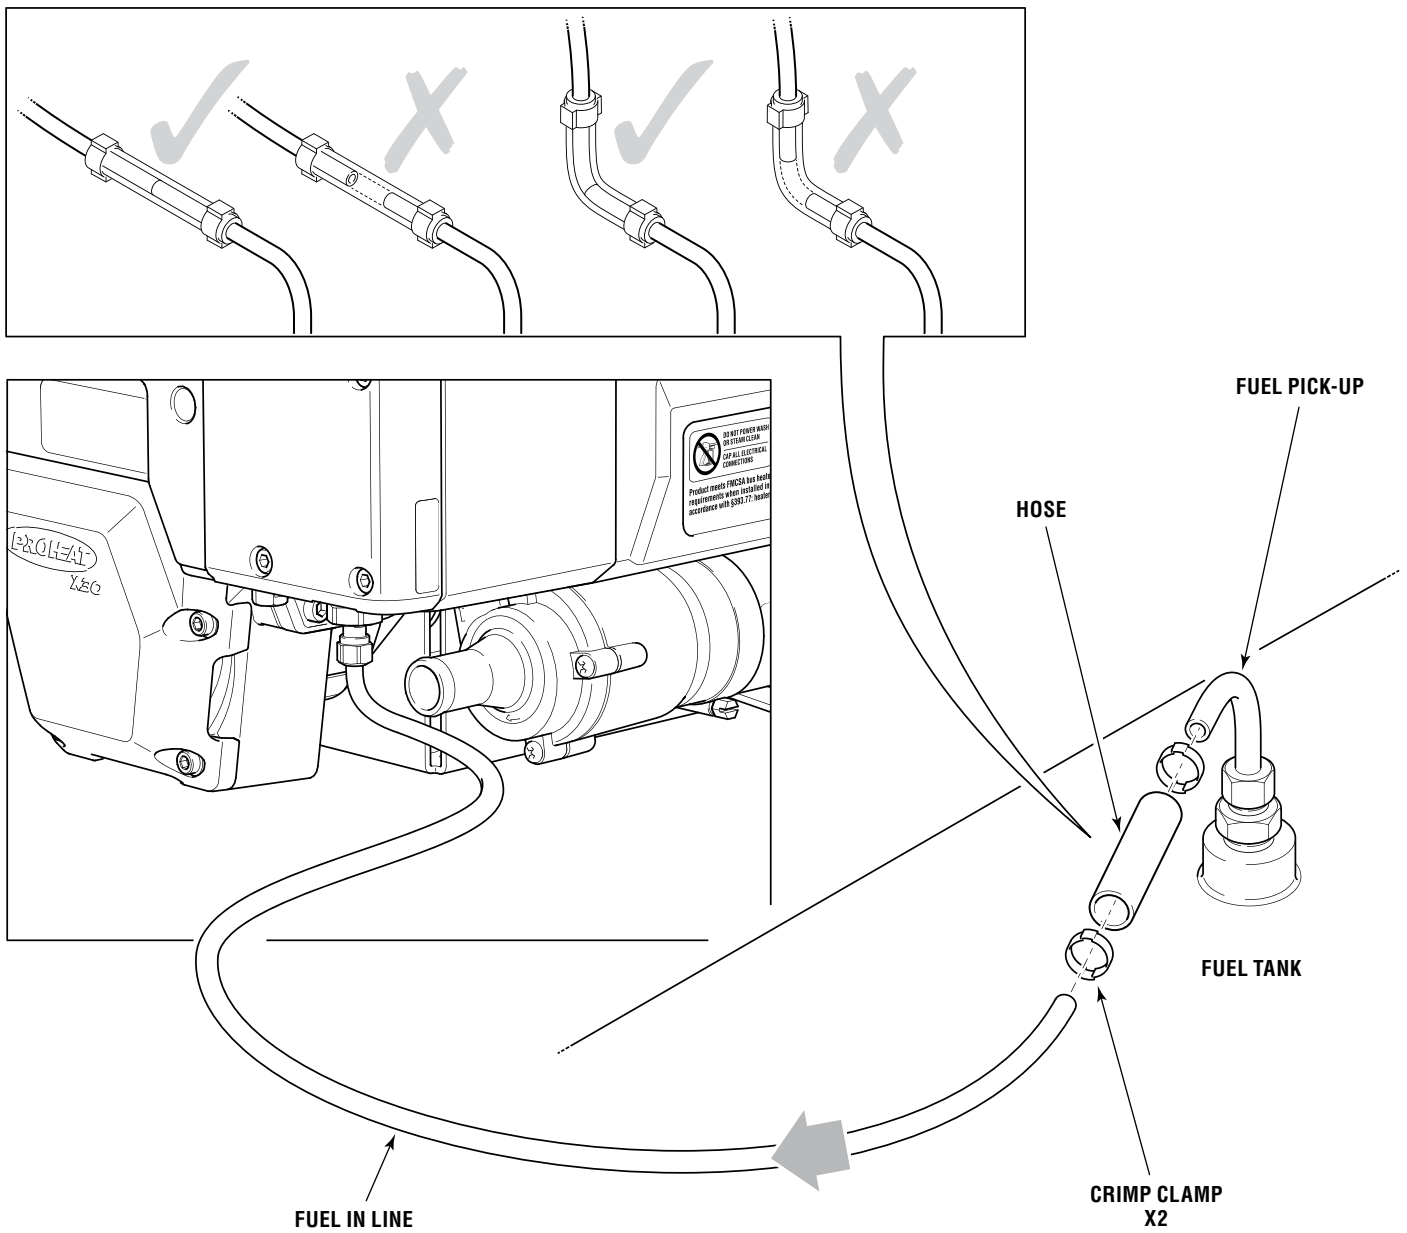

Figure 2-56. Fuel Line Connection Detail
5. Attach the fuel line to the fuel pick up using the supplied rubber hose and two crimp clamps. The end of the fuel line and the end of the fuel stand pipe must be pushed close to each other inside the connection. See figure 2-56.